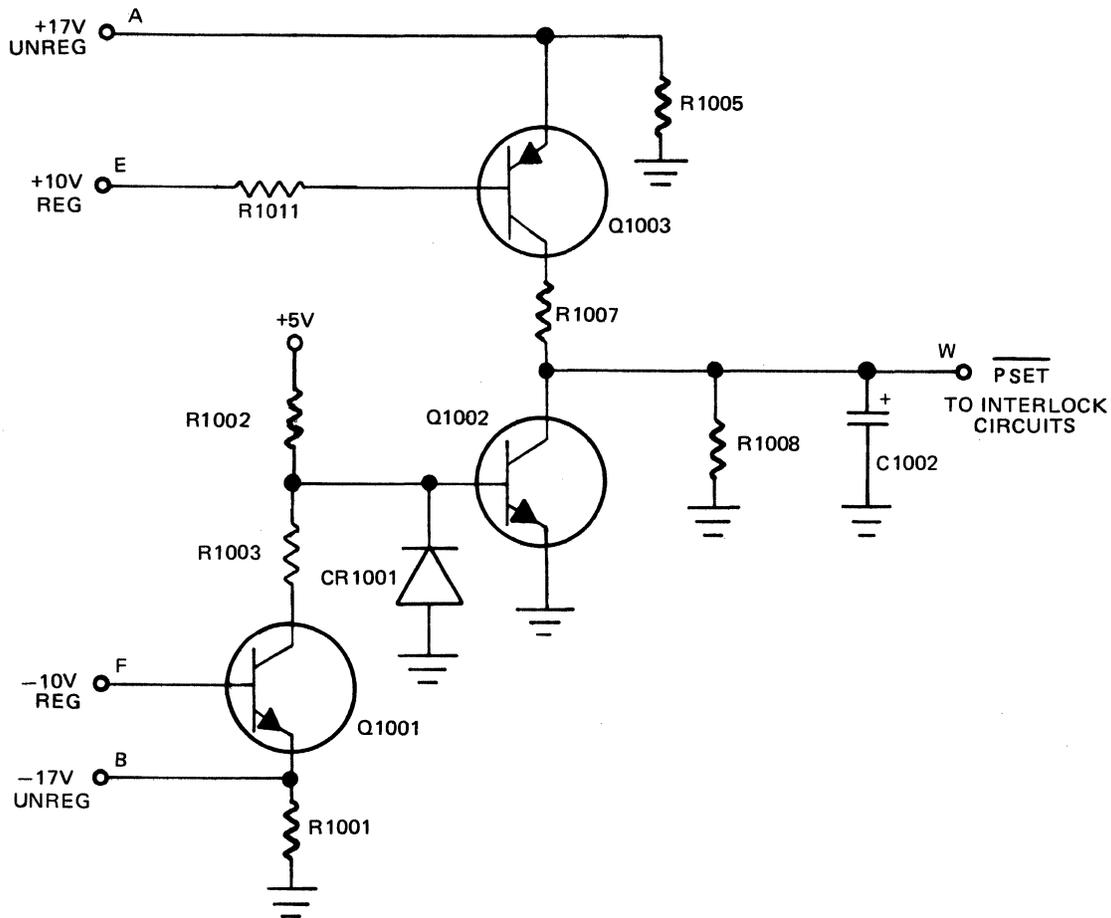

Figure 4-8. Power Reset Circuit Simplified Diagram
Figure 4-8 shows a simplified diagram of the power reset circuit. The circuit consists of Q1001, Q1002, Q1003 and associated components. The emitter of Q1003 is connected to +17 volts, and the base is connected to +10 volts through R1011. Under these conditions Q1003 conducts at saturation, causing the collector to be near +17 volts and the voltage on the $\overline{\text{PSET}}$ output (W) at approximately +3 volts (logic high). However, if the +17 volts falls or +10 volts rises, and the V_{be} of Q1003 becomes less than 0.6 volts, transistor Q1003 turns off and $\overline{\text{PSET}}$ becomes a logic low.